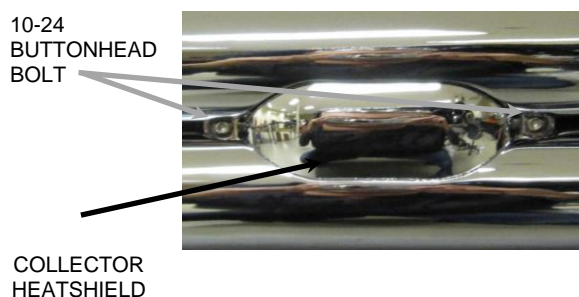

FIGURE 11
24. If the heatshields will not align properly with the collector heatshield then the collector heatshield may need to be loosened and moved forward or backward. Loosen the two button head bolts to adjust the collector heatshield forward or backward. See **FIGURE 11**.
27. Make sure the heatshields are aligned properly with the collector heatshield and that the small gap is maintained from **Step 23** and as shown in **FIGURE 11**. then tighten all hose clamps securing the heatshields.